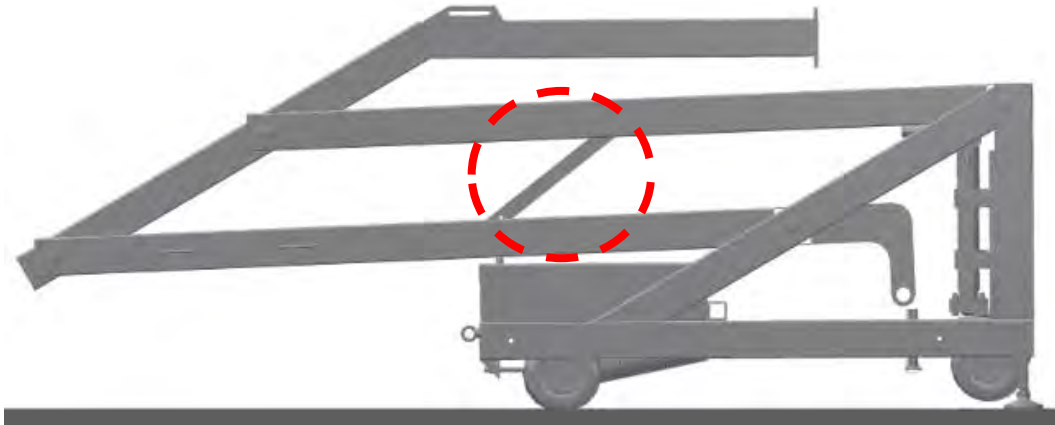

Figure 8-1: Height adjuster mechanism
1. ONLY IF BACKBOARD HAS BEEN INSTALLED, remove quick-release pin from height adjuster mechanism (Figure 8-1).
4. ONLY IF BACKBOARD IS INSTALLED, remove the quick-release pin from the height adjuster mechanism (Figure 8-1).